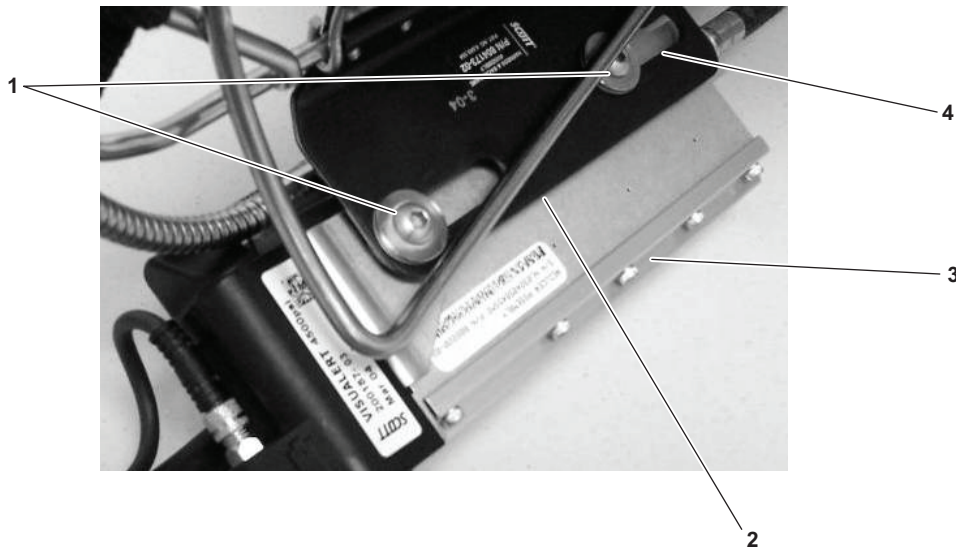

Figure 6-47. Remove Pressure Reducer
- (1) Bleed the system IAW paragraph 6.5.1.
- (2) Remove the cylinder assembly IAW paragraph 2.3.2.1 step a.
- (3) Remove the mask-mounted regulator IAW paragraph 6.7.2 step b.
- (4) Remove the remote pressure indicator IAW paragraph 6.8.2 step b.
- (5) Using a 5/32 in. Allen wrench, remove the mounting screws and the sliding washers (figure 6-47, item 1) from the mounting plate (figure 6-47, item 2). Set aside for installation.
- (6) Remove the pressure reducer (figure 6-47, item 3) from the mounting plate (figure 6-47, item 2).
- (1) Inspect the backframe and harness assembly for any visible sign of damage. Replace as required.
- (2) Inspect the pressure reducer (figure 6-47, item 3) for any visible sign of damage. Replace as required.
- (3) Align the screw holes in the side of the pressure reducer (figure 6-47, item 3) with the slots (figure 6-47, item 4) in the mounting plate (figure 6-47, item 2).
- (4) Using a 5/32 in. Allen wrench, install the mounting screws and sliding washers (figure 6-47, item 1).